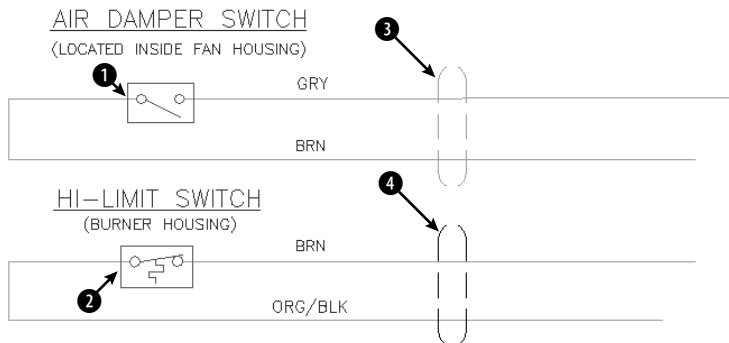

Figure 18-12: The electrical schematic has several blocks that have been inserted.
2. Save the file as `ab18-05.dwg` in your `AutoCAD Bible` folder. This is the same electrical schematic used in the previous exercise, except that the objects are now blocks that have been inserted (see Figure 18-12). OSNAP should be on. Set running object snaps for endpoint, midpoint, quadrant, and intersection. The current layer is Object.
3.  Choose Explode from the Modify toolbar. At the **Select objects:** prompt, choose the air damper switch at ❶ in Figure 18-12. Press Enter to end selection. The switch turns black or white (the opposite of your screen color) because it was created from objects whose color and linetype were set to ByBlock.